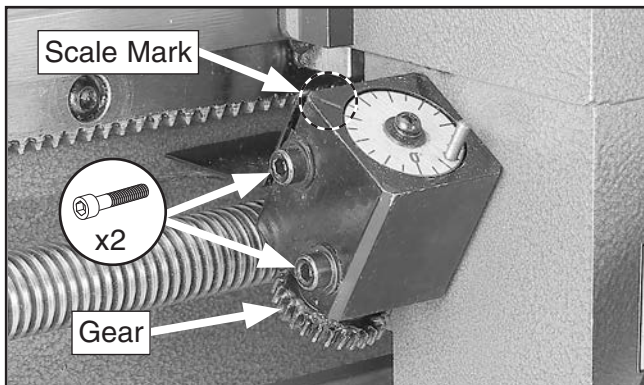

Figure 79. Thread dial details.
When the number "0" on the thread dial (**Figure 79**) aligns with the scale mark, this indicates when to engage the half nut during inch threading.
1. Loosen both cap screws shown in **Figure 79** and remove thread dial.